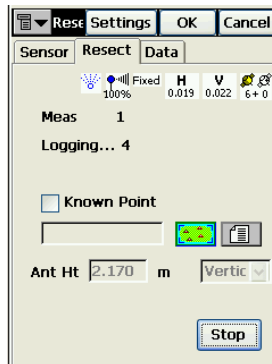

Figure A-4. Measure Point
When the sensor receives the transmitter's beam, the mmGPS icon displays (Figure A-4 on page A-3).
During the measurement, the *Resect* tab displays the number of GPS epochs used in the resection calculation (Figure A-4 on page A-3).
- When the desired amount of time has passed, tap **Stop** (Figure A-4).